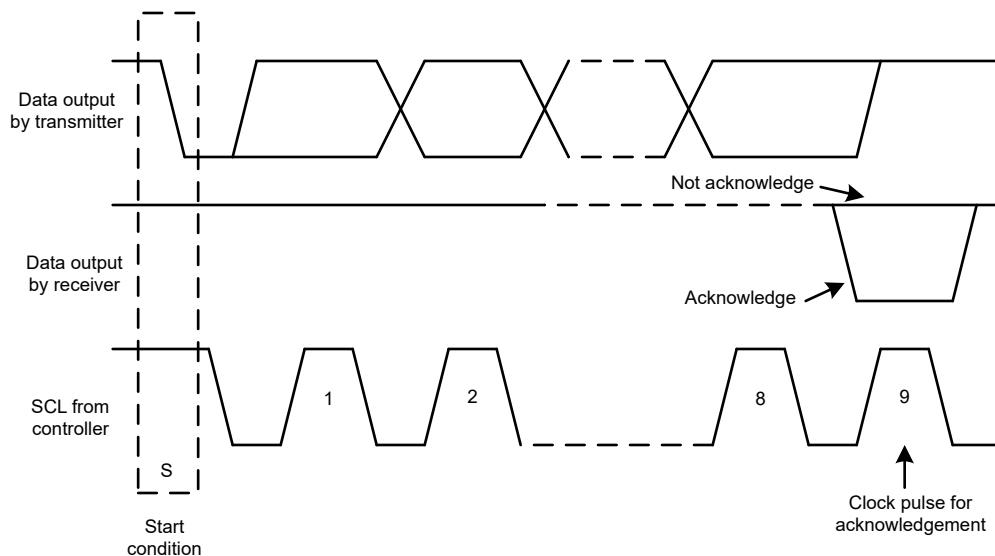
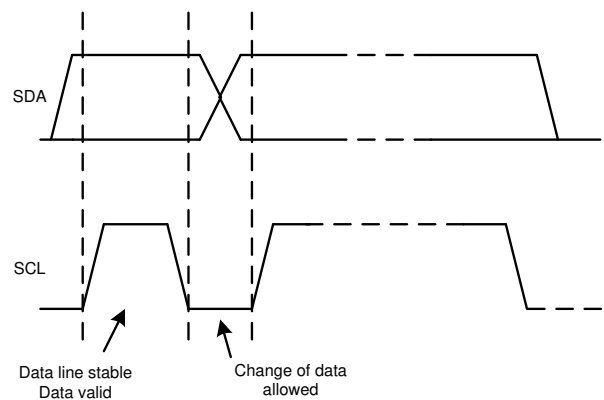

Figure 7-11. Acknowledge and Not Acknowledge on the I²C Bus
Figure 7-13. Bit Transfer on the I²C Bus
Other than specific timing signals, the I²C interface works with serial bytes. At the end of each byte, a ninth clock cycle generates and detects an acknowledge signal. An acknowledge is when the SDA line is pulled low during the high period of the ninth clock cycle. Figure 7-11 depicts a not-acknowledge, when the SDA line is left high during the high period of the ninth clock cycle.
2. The controller then generates the SCL pulses, and transmits the 7-bit address and the read/write direction bit (R/\bar{W}) on the SDA line. During all transmissions, the controller makes sure that data are valid. Figure 7-13 shows that a valid data condition requires the SDA line to be stable during the entire high period of the clock pulse. All devices recognize the address sent by the controller and compare the address to the respective internal fixed address. Only the target device with a matching address generates an acknowledge by pulling the SDA line low during the entire high period of the 9th SCL cycle (see also Figure 7-11). When the controller detects this acknowledge, the communication link with a target has been established.